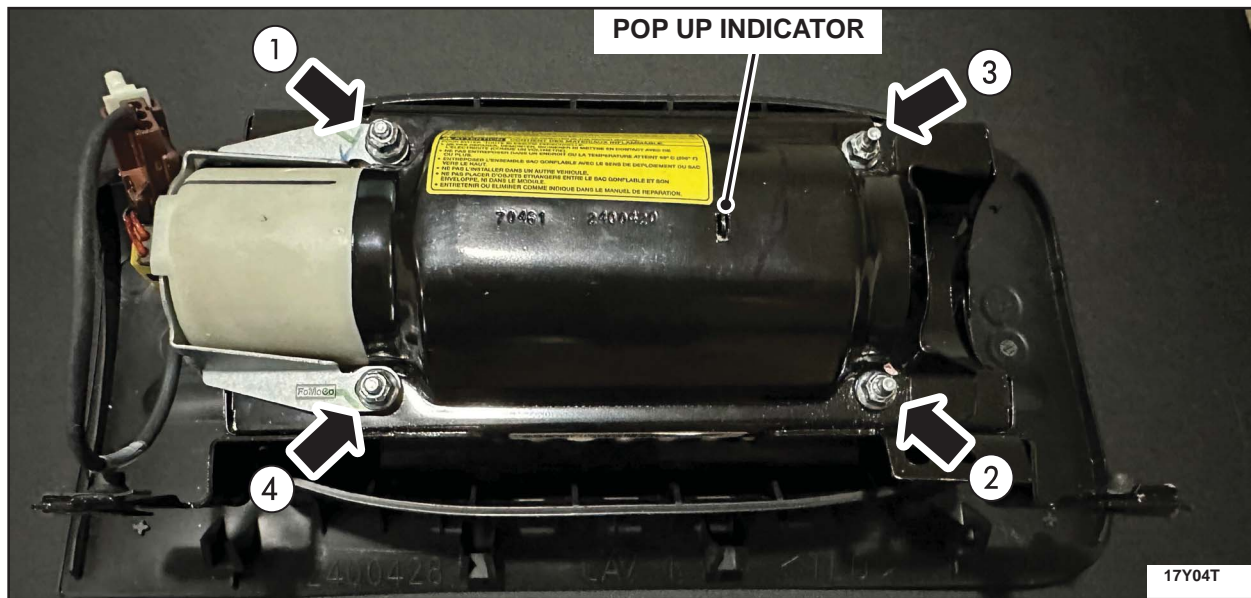

FIGURE 15
13. Install four new nuts. Assure pop-up indicator on air bag assembly is present. See Figure 15.